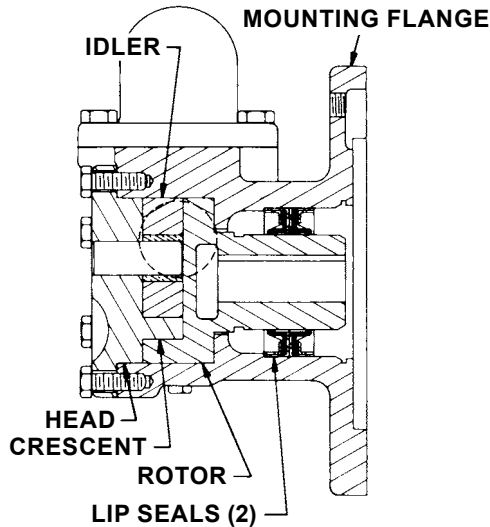

FIGURE 5
To Reassemble Model G75 or GG75 Lip Seal Pumps: see Figure 5)
6. **THE HEAD CAN NOW BE ASSEMBLED ON THE PUMP.** Tilt the top of the head away from the pump slightly until the crescent enters the inside diameter of the rotor and rotate the idler until its teeth mesh with the rotor teeth. Do not damage the head gaskets. Note correct position of the idler and crescent (**See Figure 5** and **Disassembly step 2**). Tighten the head capscrews and then check the end clearance.